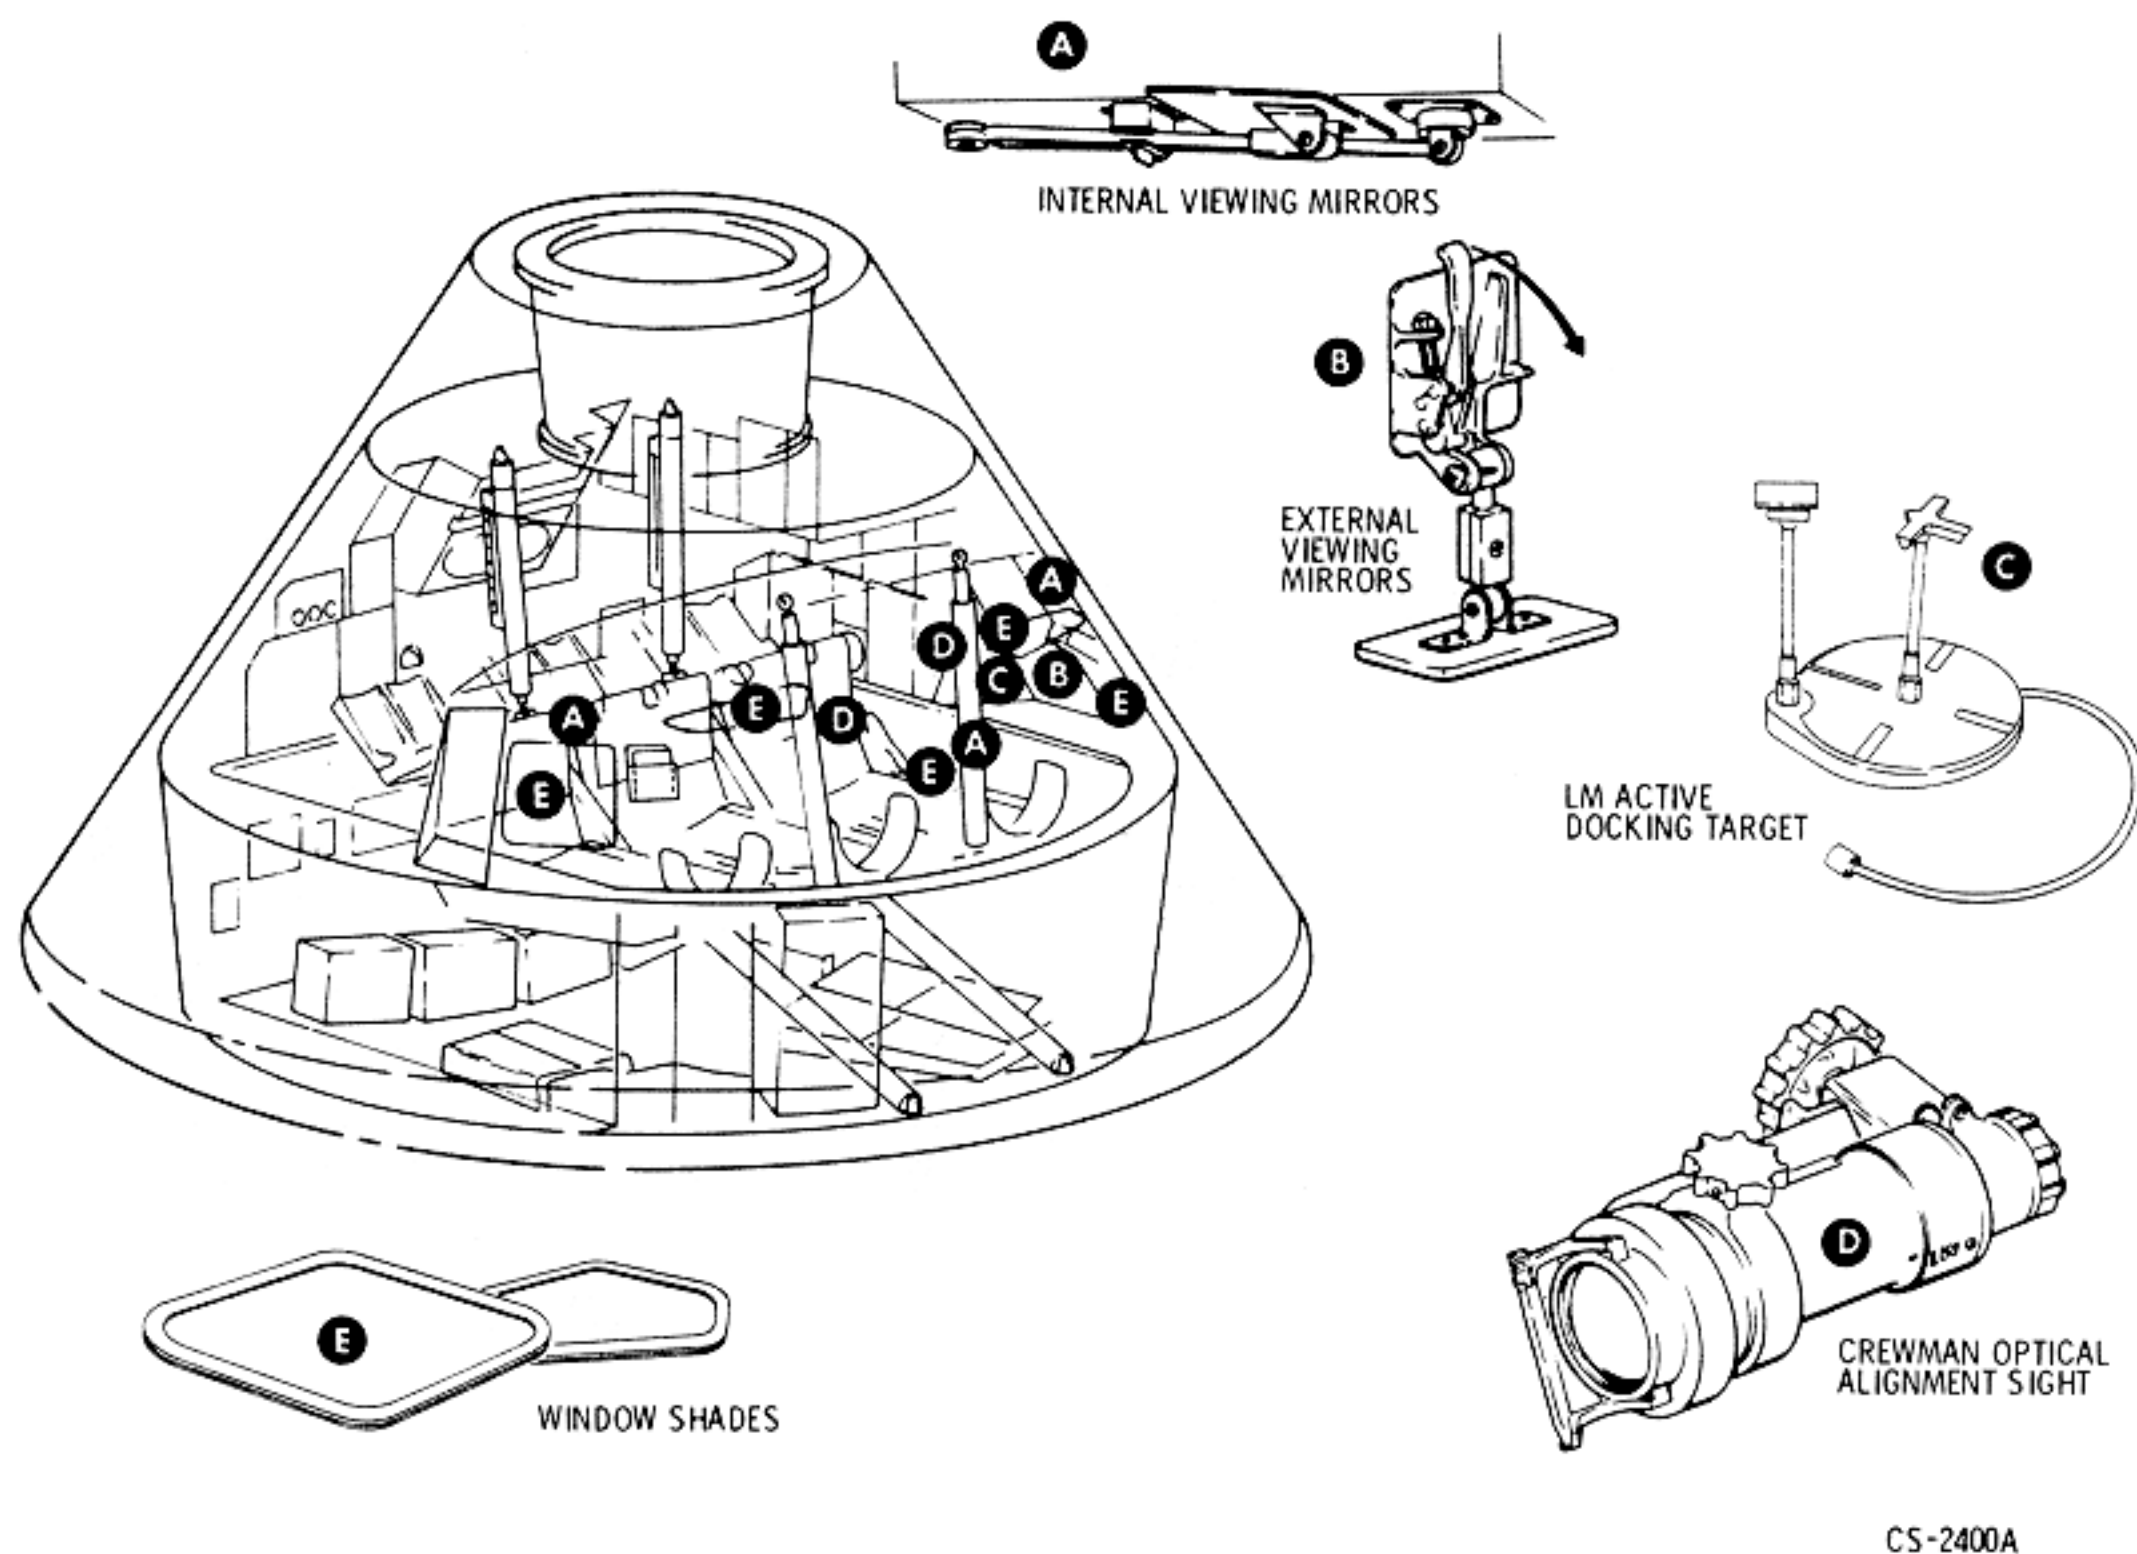

Figure 2.12-17. Internal Sighting and Illumination Aids
2.12.4.1 Internal Sighting and Illumination Aids (Figure 2.12-17).